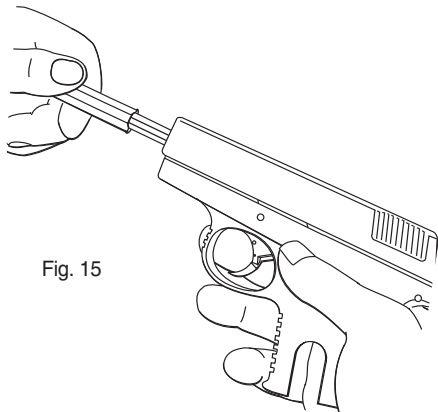

Fig. 15
**Remove the takedown and assembly tool from the barrel (Fig.15).**